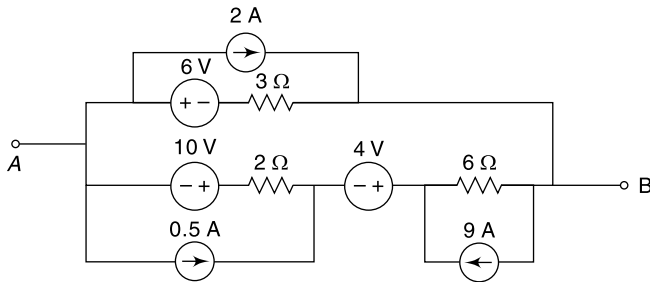

Fig. 4.130 Circuit of Ex. 4.99
4.99 Obtain Thevenin's equivalent circuit with respect to terminals A and B of the network shown in Fig. 4.130.